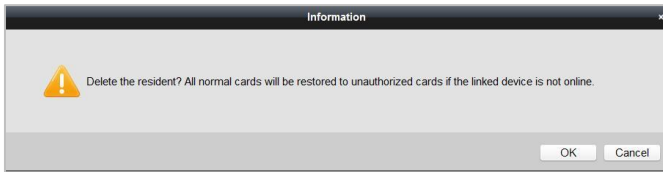
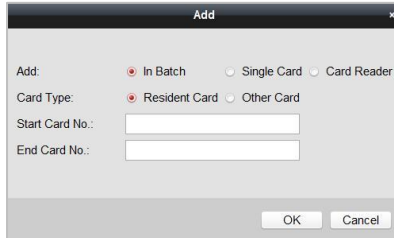

Figure 9-15 Group Deleting Interface
Figure 9-17 Adding in Batch
1) On the resident/other card issuing interface (Figure 9-15, Figure 9-17), select a community group or an Other group.